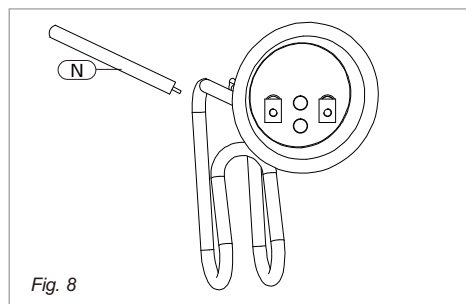

Fig. 8
The purpose of the anode rod (Fig. 8, [N]) is to protect the tank against corrosion. It is critical that the anode rod be inspected once a year to determine whether it requires replacement. To access the anode rod, the heating element must be removed (see Section 5.4 Removing the heating element). Upon inspection, the anode rod surface should appear smooth. If the rod surface appears pitted, bumpy, rusty, or if the rod is missing completely, then it must be replaced.
- Remove and replace the anode rod (Fig. 8, [N]).